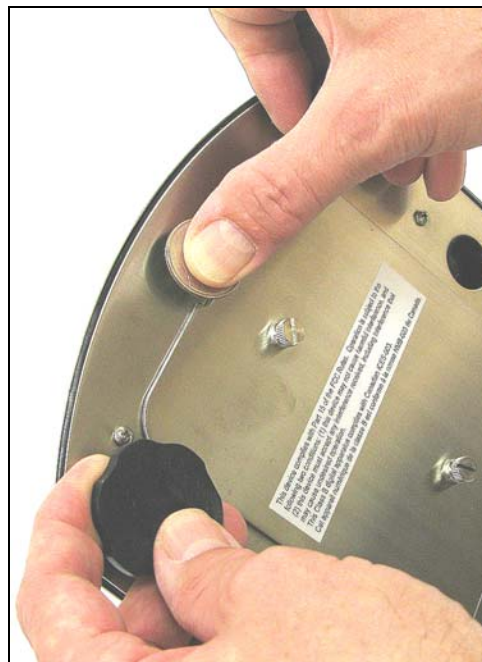

Figure 3-3. Technique for separating Top and Bottom Housing on Valor 3000.
4. Replace a screw (without tightening it) in the hole closest to the back end of the scale. Use a thumb-sized coin to press the screw while holding the leveling feet on either side. The Top Housing should come off. (See Figure 3-3.)